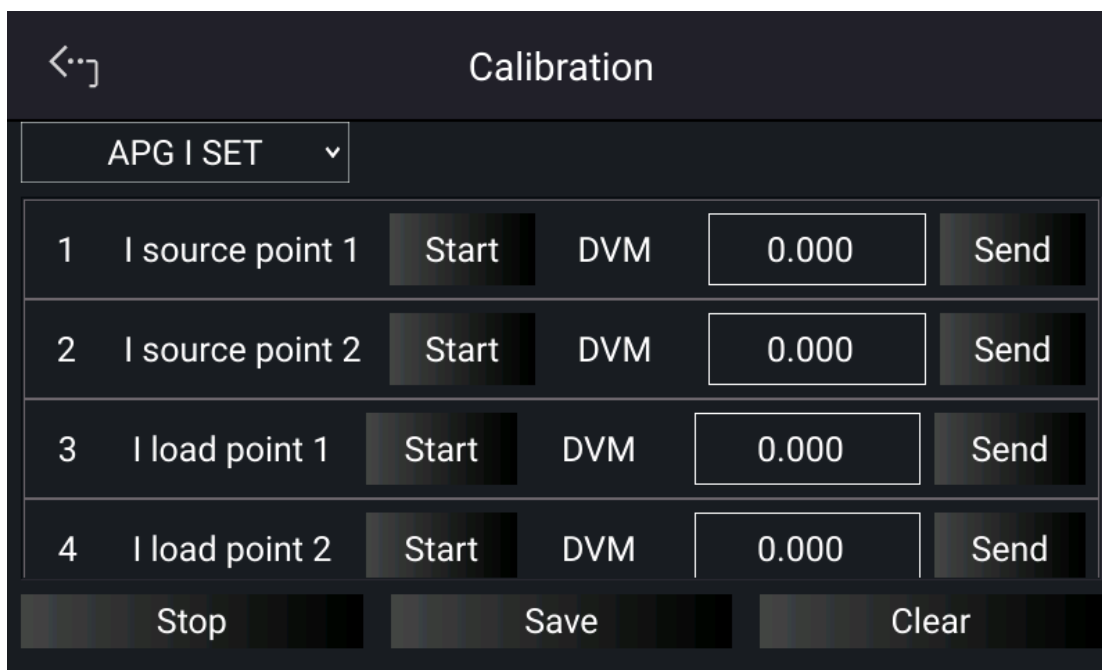

Figure 3-77
2. In Calibration page, tap “Host V” to select APG I SET and list the APG current calibration items as shown in Figure 3-77.